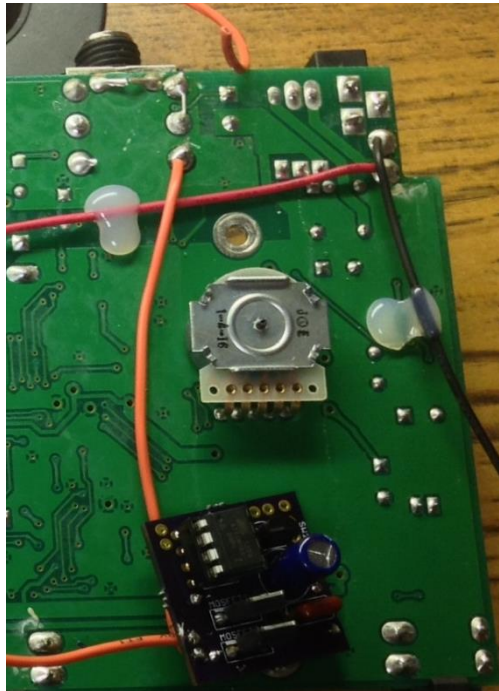

Figure 6.3
3. Flip the DL4 PCB back over and locate the solder pads for the Expression Jack. Jumper the Right Sleeve and Ring pads together with a jumper wire. Attach a wire from the Right Tip pad to the "TIP" pad on the SS PCB (the labels for the pads are on the back side of the SS PCB). (Figure 6.3)